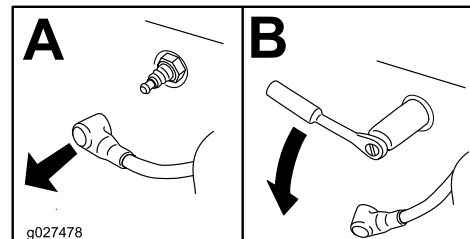

Figure 33
3. Locate and remove the spark plug(s) as shown in Figure 33.